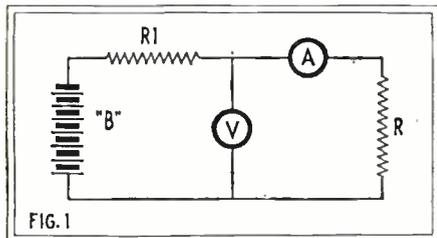

FIG. 1
A hypothetical diagram (Fig. 1) gives an example of how currents of different frequencies may be separated by means of choke coils and by-pass condensers in combination (filters). In the complete circuit (A), of this illustration, L1 is a transformer with a primary winding P and a secondary winding S; B is a battery; RFC a radio-frequency choke coil; AFC an audio-frequency choke coil; and C1 and C2 are by-pass condensers, small and large respectively. In this circuit a current composed of two different frequencies is induced in the secondary winding of the transformer by the primary winding which, we will say,
The circuit action is further analyzed in detail at B, C and D (Fig. 1), which show more clearly how the three different currents were separated. B is the path of the R.F. current, which is unable to pass the R.F. choke coil; C is the path of the A.F. current, which is unable to pass the A.F. choke coil; and D is the path of the direct current, which is unable to pass through the by-pass condensers C1 and C2.
In the laboratory, the most frequent use of Ohm's Law is for measuring the resistance of circuits or instruments. Fig. 1 illustrates the circuit used for this purpose: in this case R is the resistance to be measured, V is the voltmeter which measures the potential or voltage across R, and A the ammeter measuring the current flowing in the circuit. B is a battery which provides all other resistance in the battery circuit, such as that of wires, connections, etc., and even of the battery itself.
To illustrate how Ohm's Law is used, practical values will be given for the voltage and the current in the circuit of Fig. 1. If E (the voltage) is equal to 9 volts and I (the current) is equal to 0.5 amperes, then the resistance is equal to 9 divided by 0.5, or 18 ohms, by formula (3). (To divide by a decimal fraction, of course, the easiest way is to add to the number divided as many ciphers as there are figures pointed off in the fraction, and consider the fraction as a whole number; 90 divided by 5 is 18.)